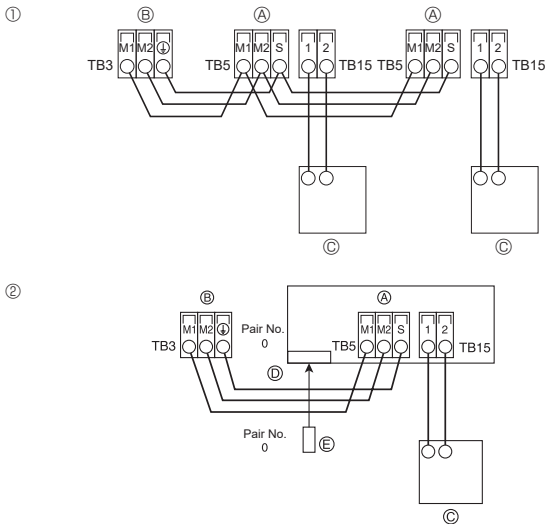

Fig. 6-3
6.5. Connecting remote controller, indoor and outdoor transmission cables (Fig. 6-3)
- ① MA Remote controller
- ② Wireless remote controller (When installing wireless signal receiver)
- (A) Terminal block for indoor transmission cable